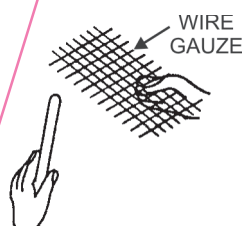

Fig. 2.3 REMOVING THE SHARP SPLINTS
- (a) Rub the edges with wire gauze to remove the sharp splints as shown in Fig. 2.3.